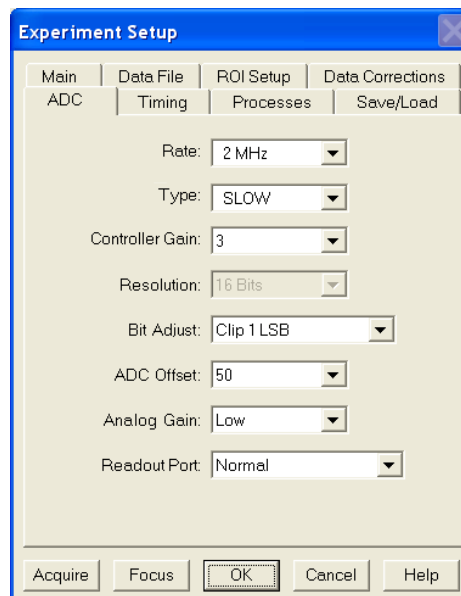

Figure 42. Generic ADC tab
- On the **ADC** tab (Figure 42), set the parameters as they apply to your particular system.